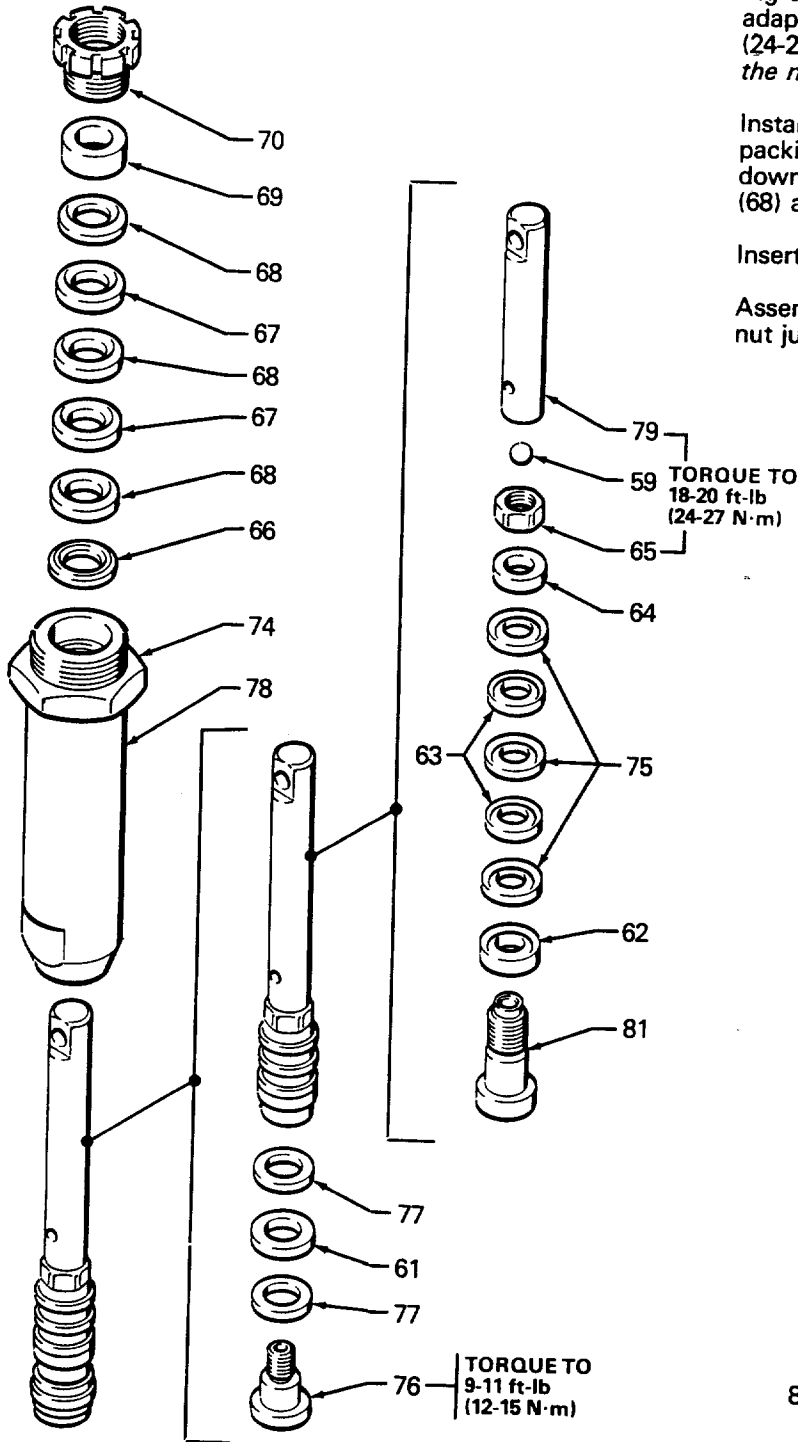
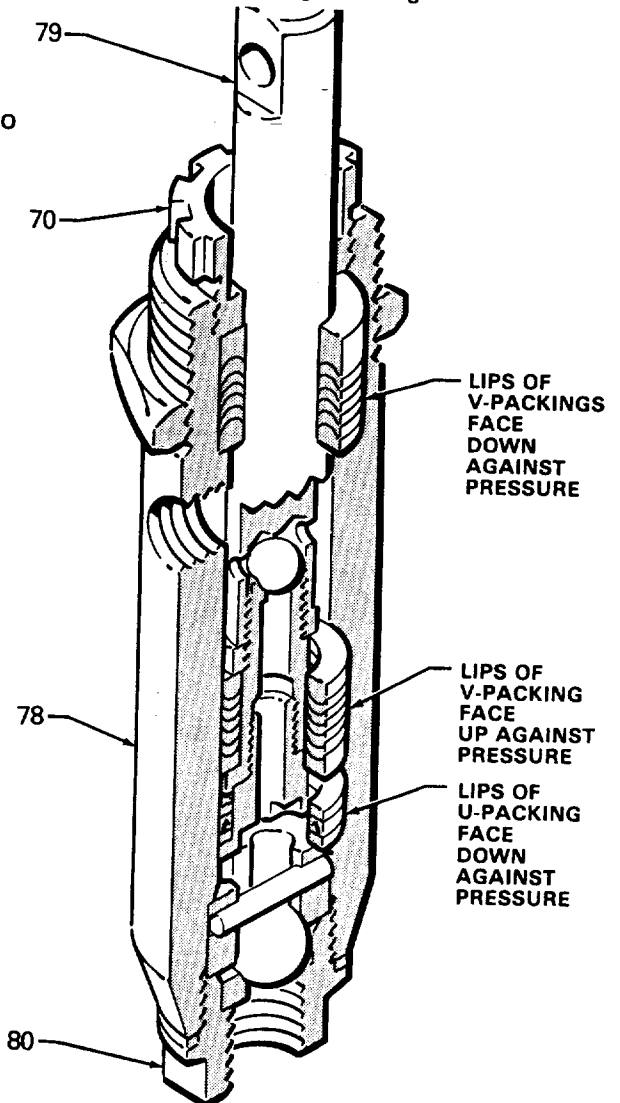

Fig 3
Fig 4
Unscrew and remove packing nut (70). Using a rubber mallet, tap piston rod (79) down and pull out through bottom of cylinder (78). See Fig 3 and 4.
Clamp flats of piston rod in a vise. Use a large screwdriver to unscrew adapter (76) from valve (81). Remove seal (61) and washers (77). See Fig 3 and 4.
When reassembling piston, install new glands and packings in correct order, alternating leather and plastic packings. See Fig 3. The lips of the V-packings must face up against fluid pressure. See Fig 4. Tighten the nut (65) to 10.5 in-lb (1.2 N·m) to seat the packings, then back off the nut and hand tighten it.
Install throat packings, glands and packing nut, leaving packing nut loose. The lips of the V-packings must face down against fluid pressure. Alternate plastic packings (68) and leather packings (67) in order shown in Fig 3.